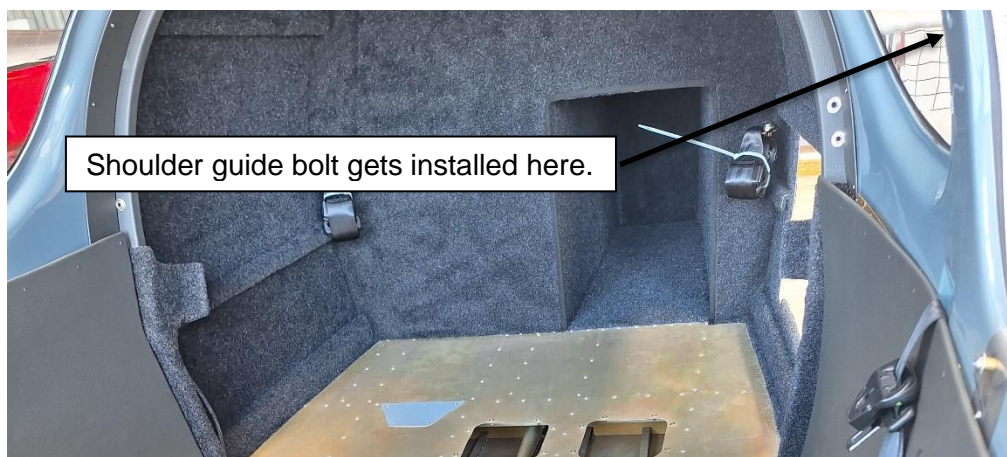

Figure 6: Seatbelt shoulder bolt installation location
- Step 1: Due to the manufacturing process, there is a potential for contaminants to be present on the thread of the hole that the shoulder bolt of the seatbelt screws into. Due to this, the threads need to be inspected, and are to be free and clear of any debris (such as weld splatter, paint, resin etc.). These will be present on both the left- and right-hand side of the cockpit. Figure 6 shows the location of the hole on left side of the cockpit.